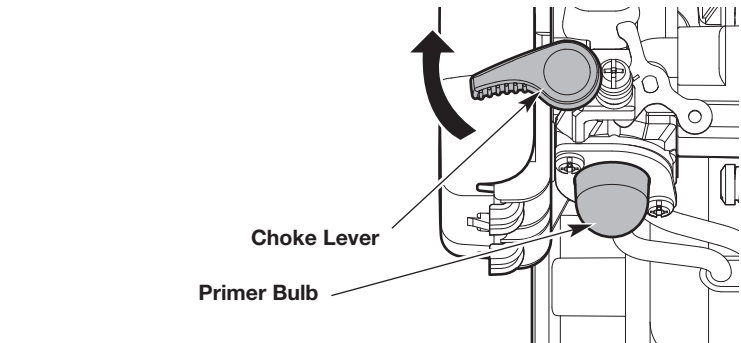

Fig. 11
3. Slowly press and release the primer bulb **10 times** (Fig. 11). If fuel cannot be seen in the primer bulb, press and release the primer bulb until fuel is visible.
4. **DO NOT** squeeze the throttle control. Flip the choke lever clockwise until it clicks (Fig. 11).